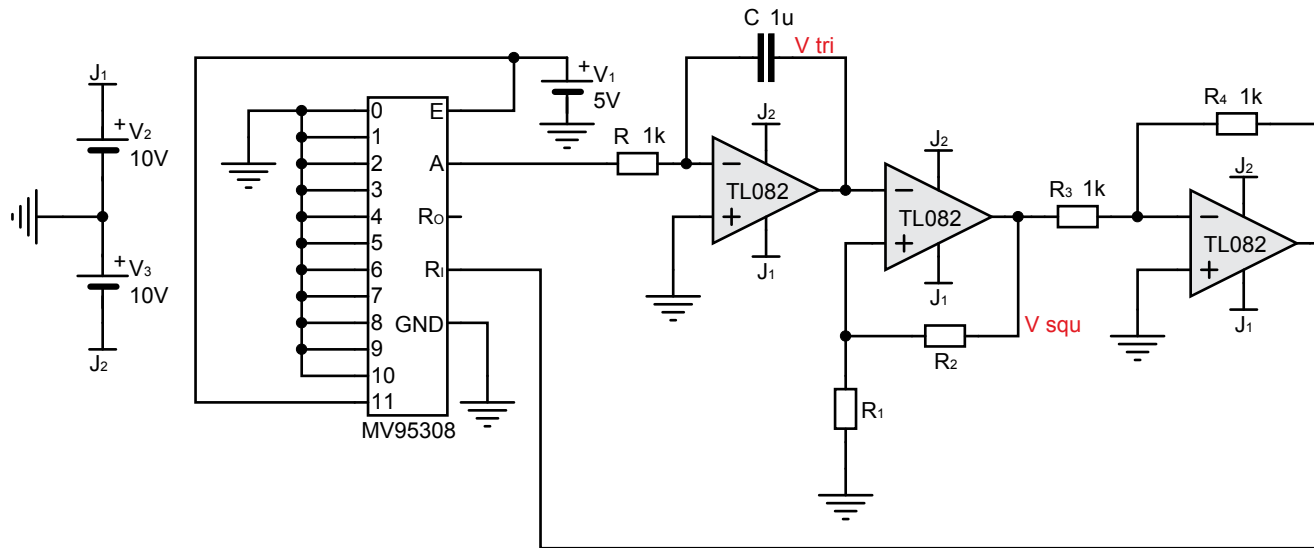
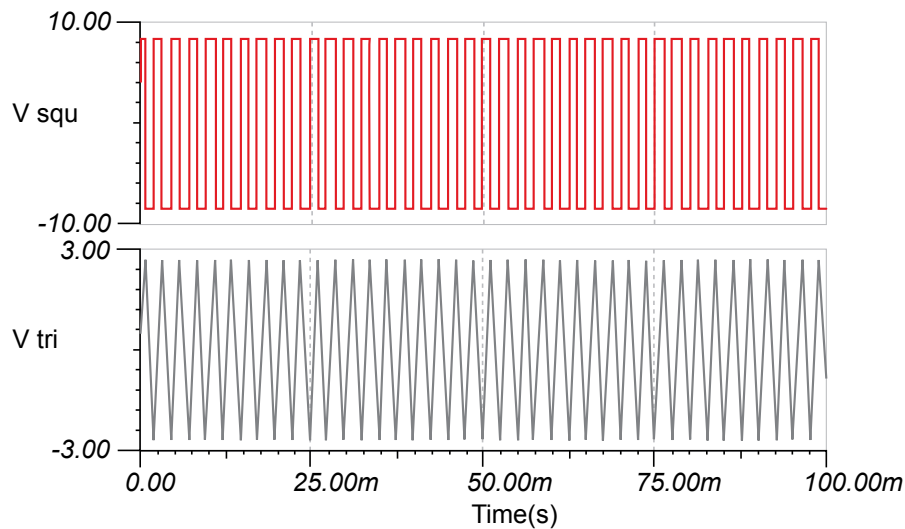

Figure 14.2: Circuit for Simulation
Figure 14.3: Simulation Results
- 1 Simulate the circuit using any simulator and observe the frequency of oscillation of the square and triangular waveforms. See Figure 14.2 for the result of simulation. The typical simulation waveforms are of the form shown in Figure 14.3. For this simulation, we used the macro-model of **MV95308** since the macro-model for the DAC is not available at the time of writing.